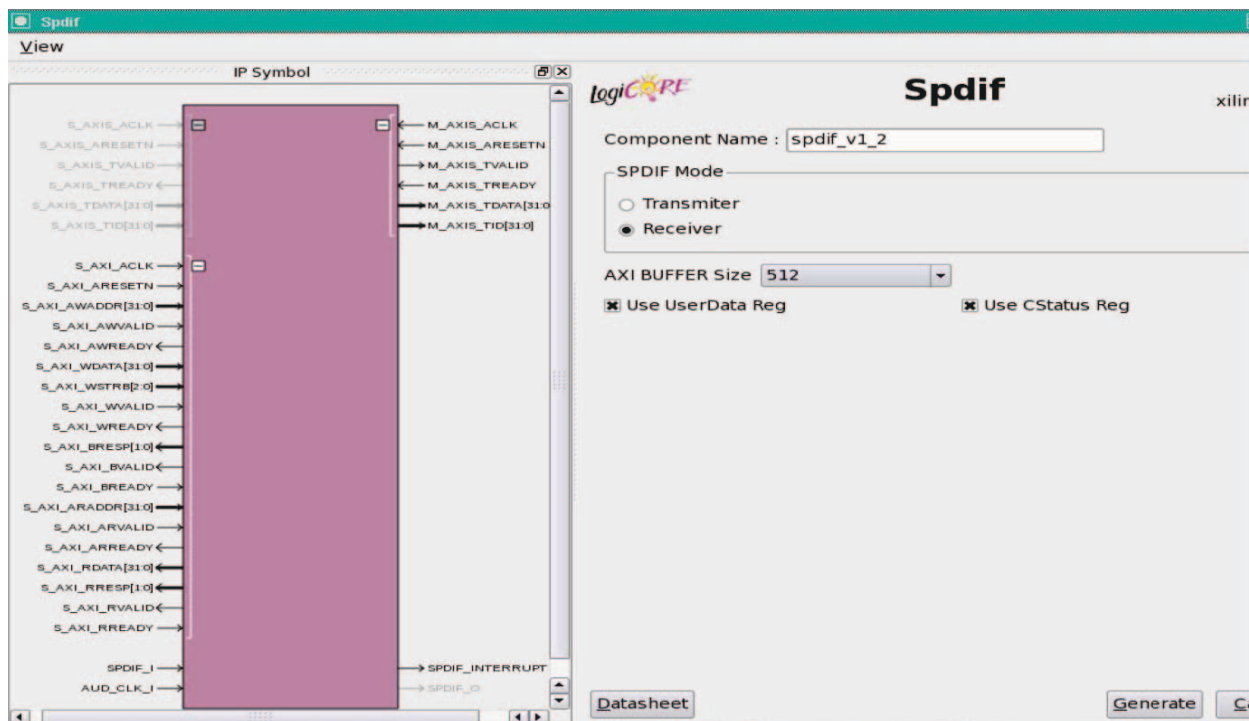

Figure 7-1: SPDIF Main Screen
- Double-click the core to display the main SPDIF configuration screen (see Figure 7-1).